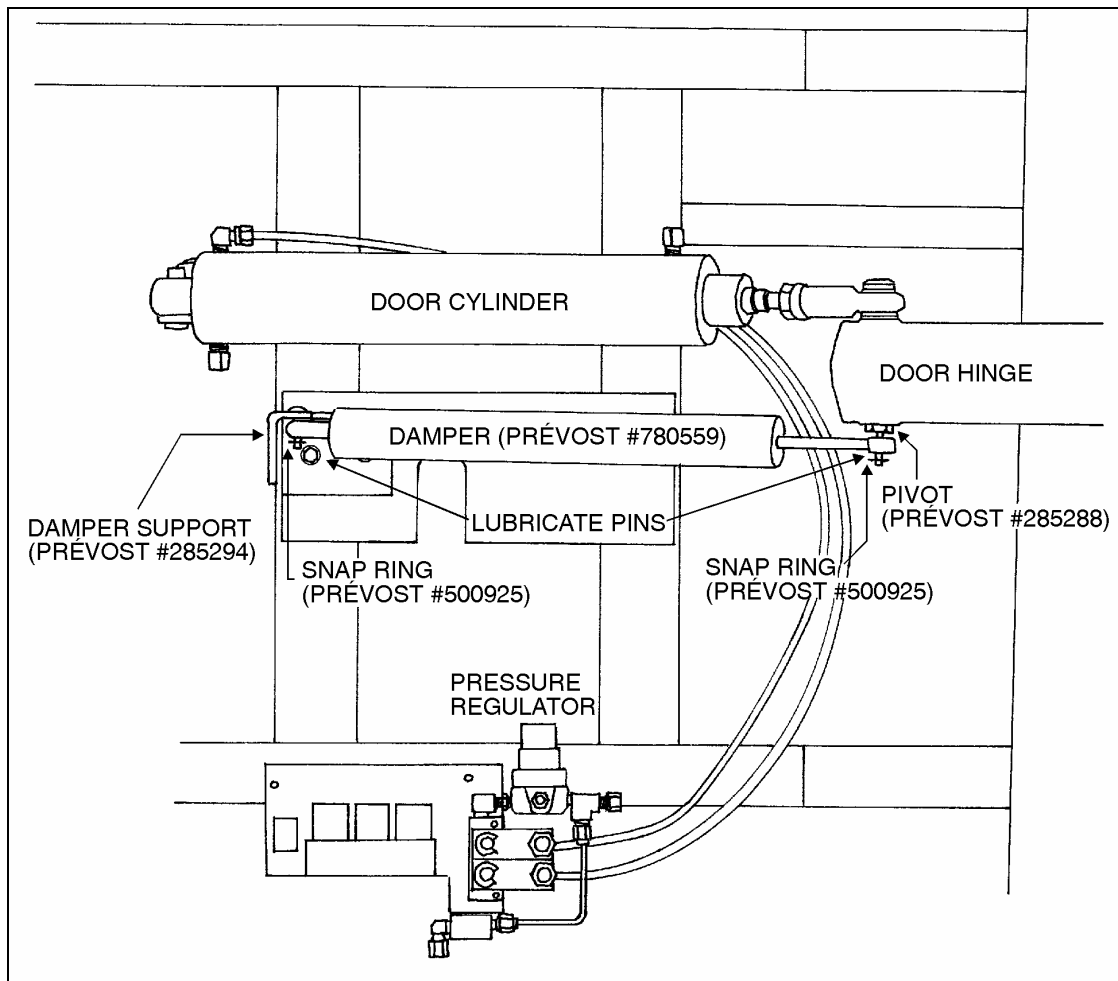

FIGURE 3
12. Screw pivot (Prévost #285288) in door hinge (Fig. 3).
13. Lubricate the two pins on which damper will be installed with oil. Install damper (Prévost #780559) between support and door hinge with piston rod extremity on door side (Fig. 3). Install a snap ring (Prévost #500925) under each extremity of damper on pivots.